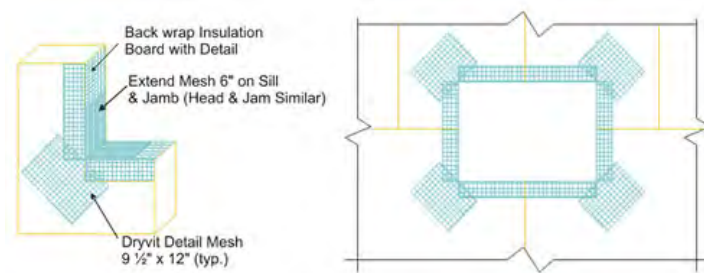

Figure 19
21. Corners of all openings such as windows, doors, mechanical equipment and all penetrations shall be reinforced with Detail Mesh placed diagonally to the opening as illustrated in Figure 19.